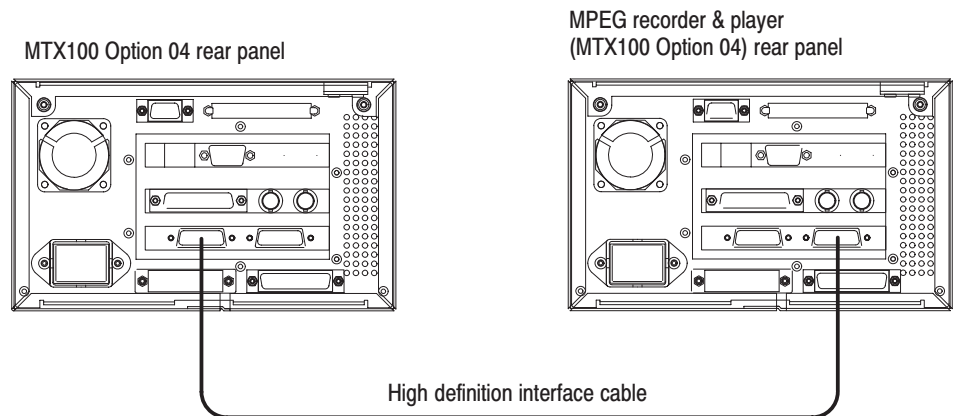

Figure 4-17: Initial equipment connection for verifying the DHEI interface
1. Use the high definition interface cable to connect the EXPANSION OUT connector on the MTX100 Option 04 to the EXPANSION IN connector on the MPEG recorder & player as shown in Figure 4-17.